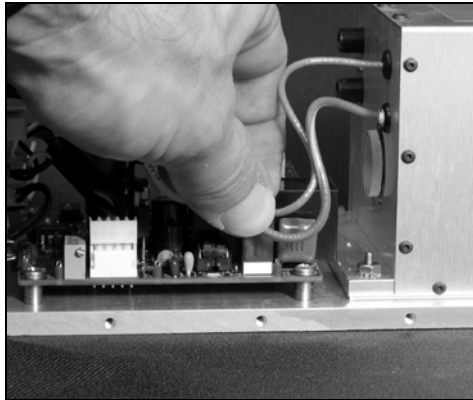

Figure 20. Disconnect the ground and monitor connector.
4. Disconnect the ground and monitor line connector, as shown in Figure 20.